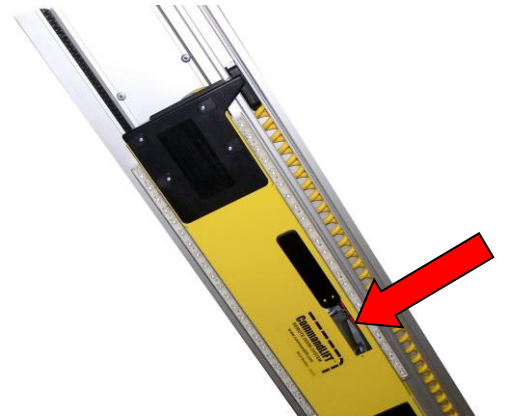

Figure 2 – Access Cover
3. Open the black access panel on the motor unit (see figure 2) and you will see a metal lever. Insert a screw driver in the hole on this lever and pull the lever towards the roll-up door. This will release the motor unit from the gears and will allow the motor unit to slide freely along the track.
4. Open the black access panel on the motor unit (see figure 2 on the previous page) and you will see a metal lever. Insert a screw driver in the hole on this lever and push the lever away from the roll-up door. This will engage the motor unit with the gears and will allow the motor unit to operate the roll-up door. The lever must “SNAP” into place or the gears will not mesh properly.